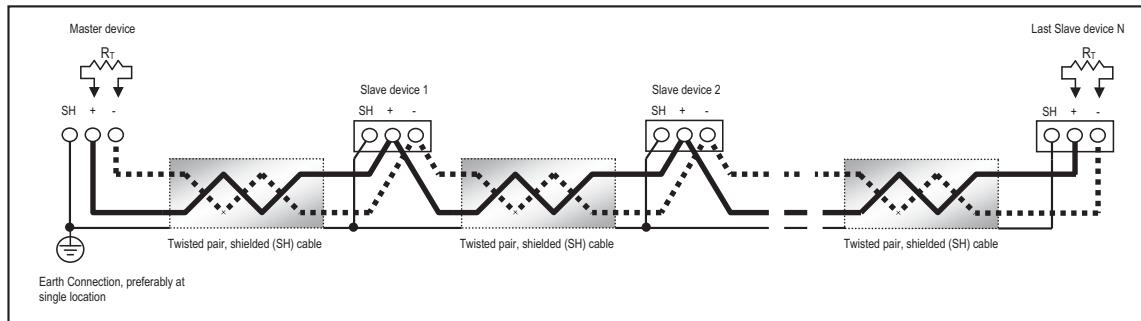

Figure 5.4: RS485 Daisy Chain Connection
- Connect shield to RS485 Master and individual devices as shown in Figure 5.4. You may also connect the shield to earth-ground at one point.
- Termination Resistors (RT) may be needed on both ends for longer length transmission lines. However, since the meter has some level of termination internally,
Figure 5.4 shows a representation of an RS485 Daisy Chain connection. Refer to Section 5.1.2.1 for details on RS485 connection for the Unicom 2500.